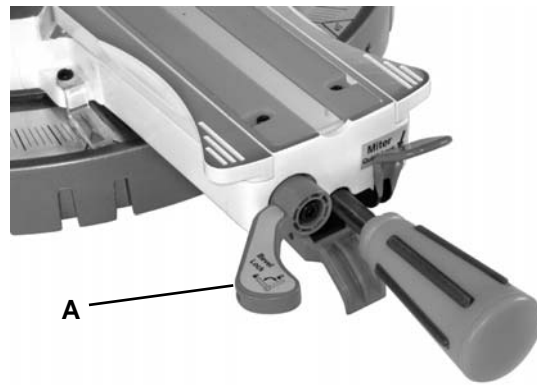
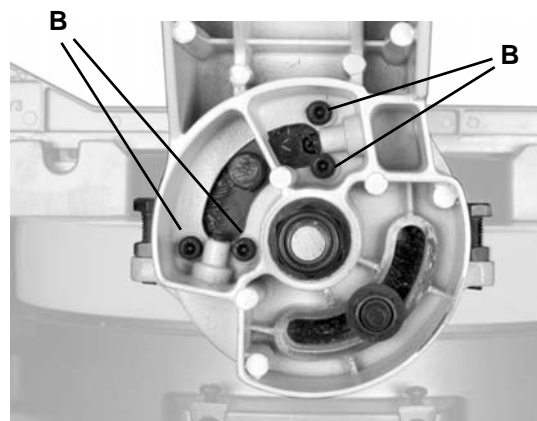
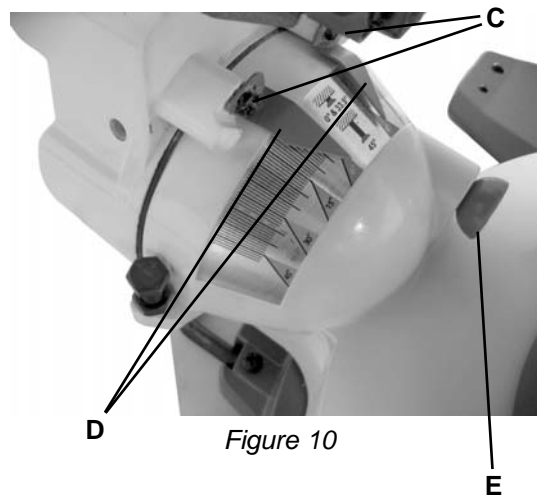
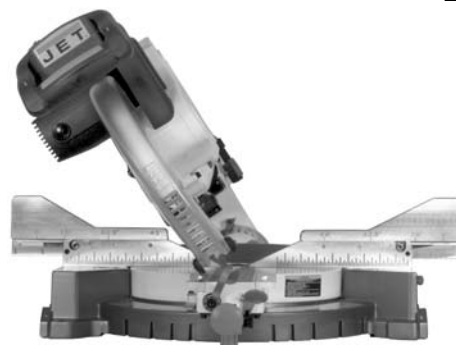

Figure 8
Figure 9
Figure 10
Figure 11
1. Turn the *bevel lock handle* (A, Fig. 8) clockwise to loosen and tilt the cutting arm while pushing the *bevel detent pin* (E, Fig. 10) in against the 0° bevel stop. Turn the *bevel lock handle* (A, Fig. 8) counterclockwise to tighten.
3. Using a 5mm hex wrench, loosen four *adjustment bolts* (B, Fig. 9) at the back of the miter saw. Unlock the *bevel lock handle* (A, Fig. 8) and position the cutting arm to be zero degrees to the table using the combination square as your reference.
4. Tighten the *bevel lock handle* (A, Fig. 8) and the four *adjustment bolts* (B, Fig. 9).
2. With cross-point screwdriver, loosen two *bevel indicator screws* (C, Fig. 9).
3. Adjust *bevel indicators* (D, Fig. 9) to the “0” mark on the bevel scale and retighten the screws (C, Fig. 9).
1. Set the miter angle to zero degrees. Fully extend the sliding fence completely to the left then pull the *bevel detent pin* (E, Fig. 10) out.
- Loosen the *bevel lock handle* (A, Fig. 8) and tilt the cutting arm completely to the left (Figure 11).
- Loosen the *bevel lock handle* (A, Fig. 8) and tilt the cutting arm completely to the right (Figure 13).
- Loosen the *bevel lock handle* (A, Fig. 8).